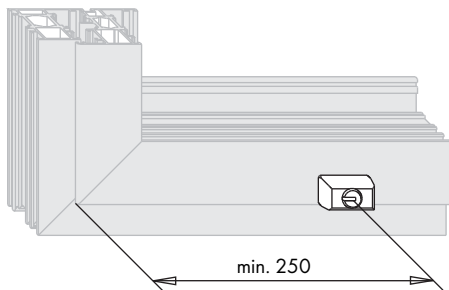

Figure 1
- Preparation** Pre drill the holes in the sash for the Turning Lock LM (1) (Figures 1 and 2) .
- Sash** Position the Turning Lock LM (1) in the corresponding holes  $\varnothing 12,5$  (Figure 1) and secure with the set screws (2) (Torque  $2,5 \pm 0,25$  Nm).
- A** Fix the lock (3) in the frame once aligned with the turning lock (1) by tightening the grub screws.
- B** For profiles with an upstand from 6,5 to 7,5 mm insert the packer (4) in the groove on the underside of the lock (3).